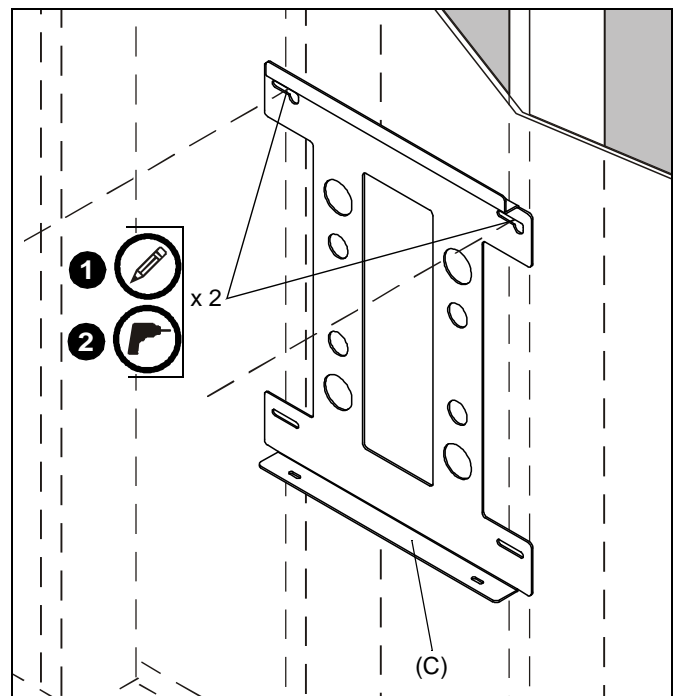

Figure 4
1. Using the mounting plate (C) as a template, mark the wall at the top mounting slots.
2. Drill one 1/2" pilot hole at both marks made in Step 1. (See Figure 4)